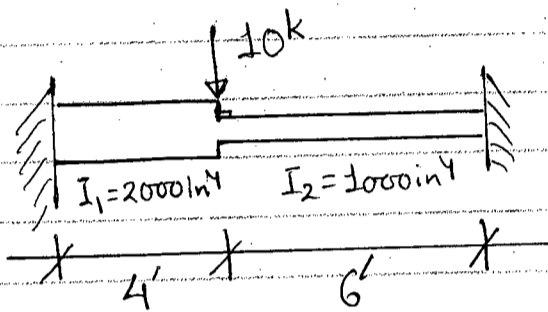

Fig. 8
5. (a) Calculate the reactions of the beam shown in Fig. 8. Use the Flexibility Method. Given:  $E = 3000 \text{ ksi}$ . (21 2/3)